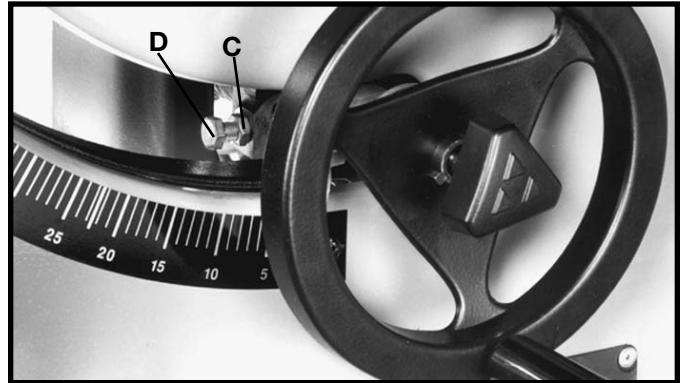

Fig. 110
4. Turn the blade tilting handwheel counterclockwise as far as it will go. Using a square, check to see if the blade is at 45 degrees to the table. If an adjustment is necessary, turn the blade tilting handwheel clockwise until the adjusting screw (D) Fig. 110, and locknut (C) are in view, in the opening in the front of the saw cabinet, as shown. Loosen locknut (C) and tighten or loosen adjusting screw (D) until head of screw (D) contacts casting on front trunnion when the blade is at 45 degrees to the table. Then tighten locknut (C).